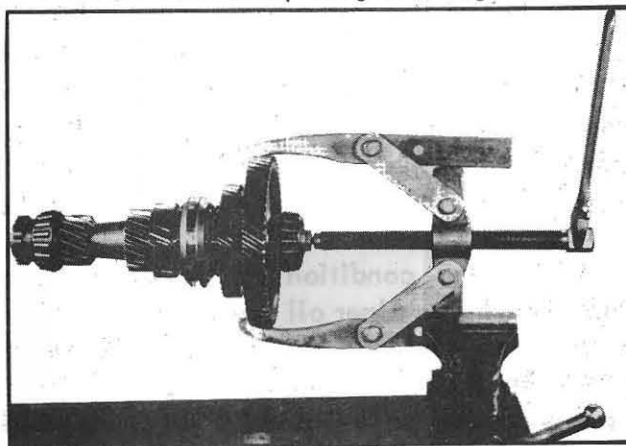

Fig. 237
1. Pull the large gear and tapered-roller bearing with a gear puller as shown in Fig. 237.